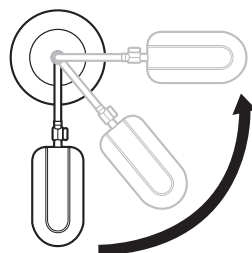

Fig. 6
2. To rotate the lamp head right or left, loosen height adjusting collar, swing lamp arm to desired position. Tighten collar. Lamp arm rotates a full 360°. (Fig. 6)